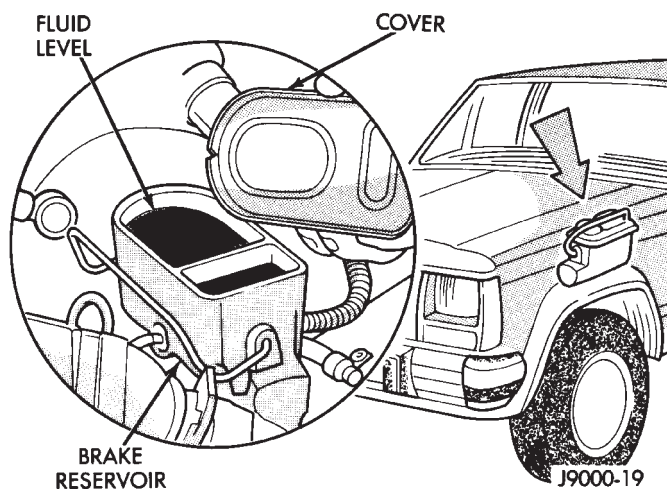

Fig. 7 Reservoir Fluid Level—Typical
- (1) Clean the cover and the sides of the brake fluid reservoir.
- (2) Detach the bail retainer from the reservoir cover and remove the cover from the reservoir.
- (3) The brake fluid level should be 6 mm (1/4 in) below the rim of each reservoir well for XJ and YJ Vehicles (Fig. 7). If not, add brake fluid as necessary.
- (4) Inspect the reservoir cover bail retainer for tension and the cover for proper fit. The cover should fit tight and have a good seal.